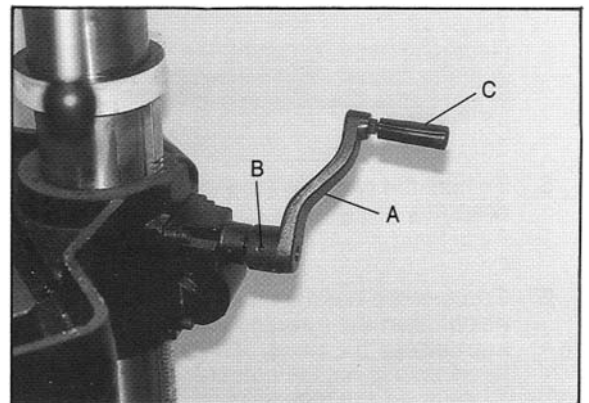

Figure 1
1. Slide crank (A, Figure 1) onto the table raising assembly shaft.
2. Tighten the set screw (B, Figure 1) to hold the crank in place
3. Install the handle (C, Figure 1) onto the crank